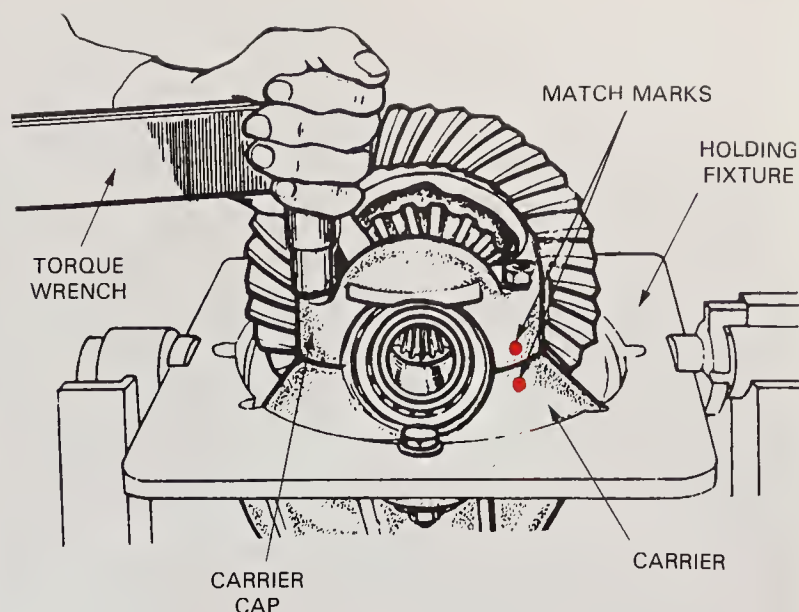

Fig. 59-20. Torque all fasteners to specs. Make sure you align markings during assembly. (Plymouth)
11. Align all markings during reassembly, Fig. 59-20.